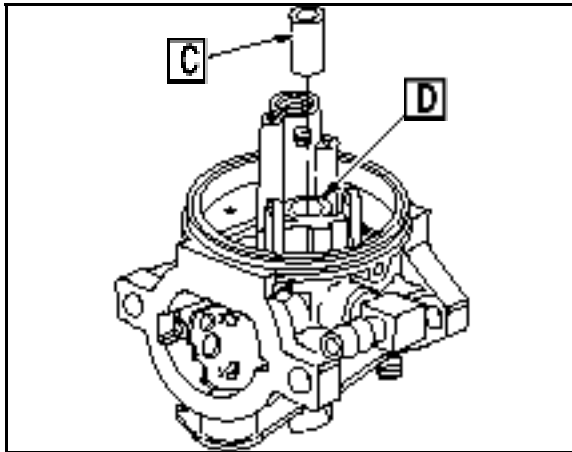

Fig. 128
1. Press the new fuel inlet seat (C) in until it is flush with the fuel inlet boss ([D] Fig. 128).